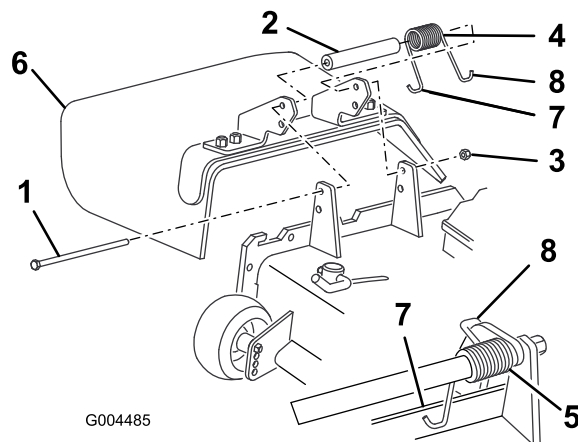

Figure 100
2. Remove the locknut, bolt, spring, and spacer holding the deflector to the pivot brackets (Figure 100).
3. Place the spacer and spring between the replacement grass-deflector brackets (Figure 100).
Note: Make sure that the left J-hook end of the spring is installed behind the deck edge before installing the bolt as shown in Figure 100.
Note: Place the right J-hook end of the spring around the grass deflector (Figure 100).